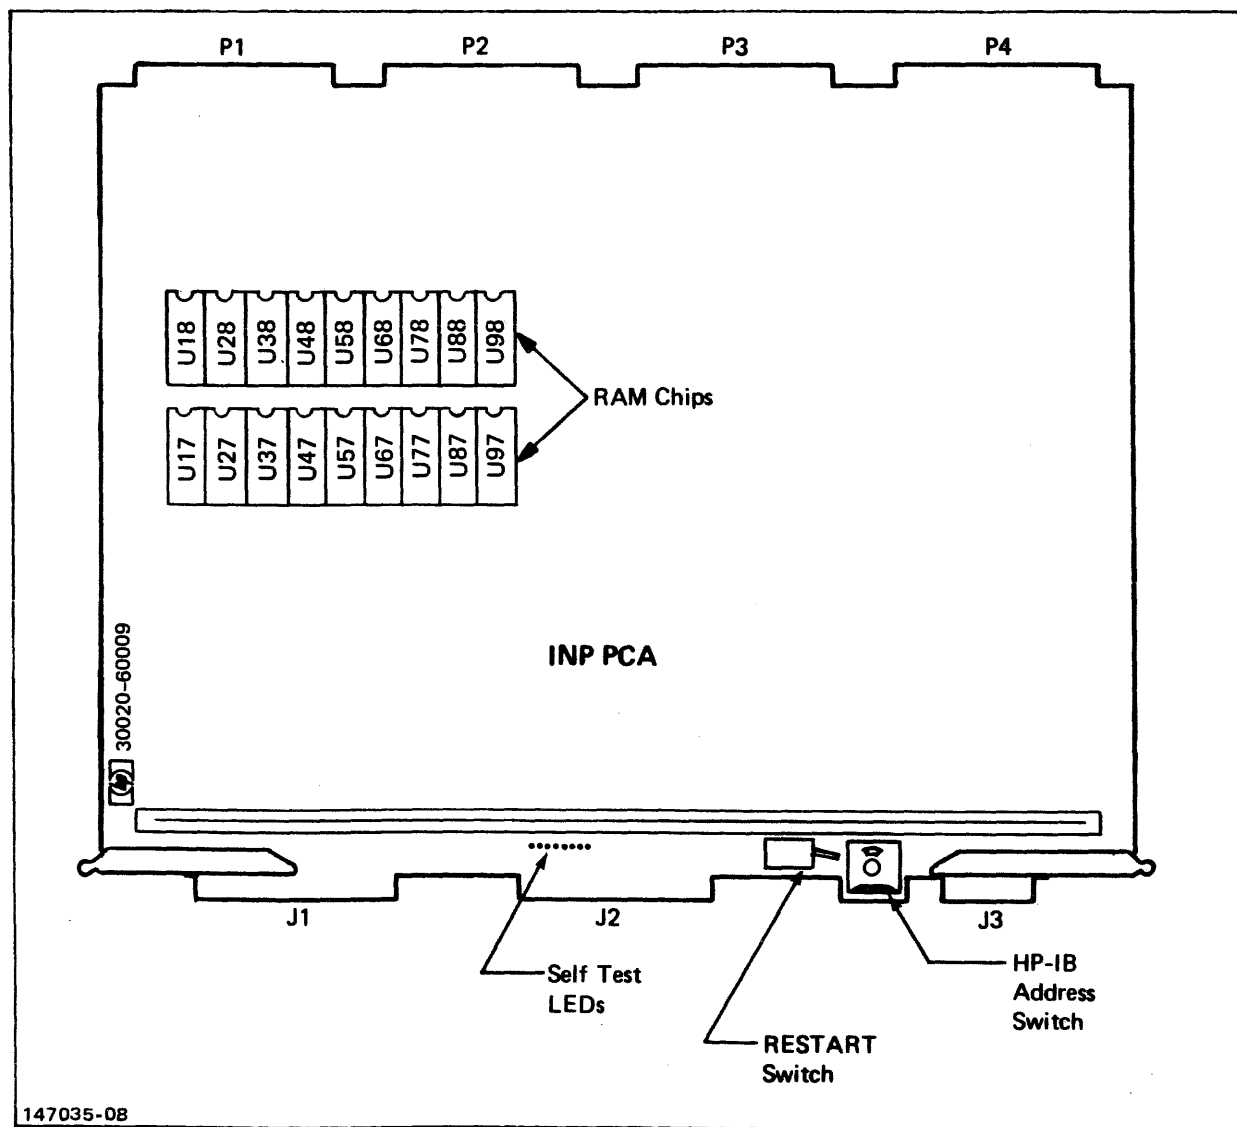

Figure 4-1. Location of Pertinent Components on INP PCA
As each test is successfully completed, the next test in the sequence is started until the self-test cycle has been completed. The red LED indicators (located on the edge of the INP PCA board, as shown in figure 4-1) blink on and off during the test cycle
The self test checks most of the circuitry of the INP PCA board. If, upon completion of the self test, the self-test LED indicator lights (figure 4-1) are displaying 0 and 7 (only the two lights at each end are lighted), there is no detectable hardware malfunction within the INP PCA board. If any other combination of lights is being displayed or if you still suspect a malfunction beyond the physical limits of the PCA boards, call your Hewlett-Packard Customer Engineer (CE).
- b. Before initiating any other action, open the computer card cage door and observe the INP self-test LEDs (see figure 4-1 for the location of the LEDs). Note whether the LEDs are flickering or a static pattern is being displayed, and make a written record of which LEDs are lighted. This information may be needed later if the problem persists beyond the initial steps of troubleshooting.
- d. Press the manual RESTART switch (figure 4-1) to initiate the self test.
The Random Access Memory (RAM) chips are the only components on the INP PCA board that are field replaceable. (See figure 4-1 for their location on the board.) If troubleshooting procedures (such as use of the self test) indicate that a RAM chip is faulty, replace it as follows: